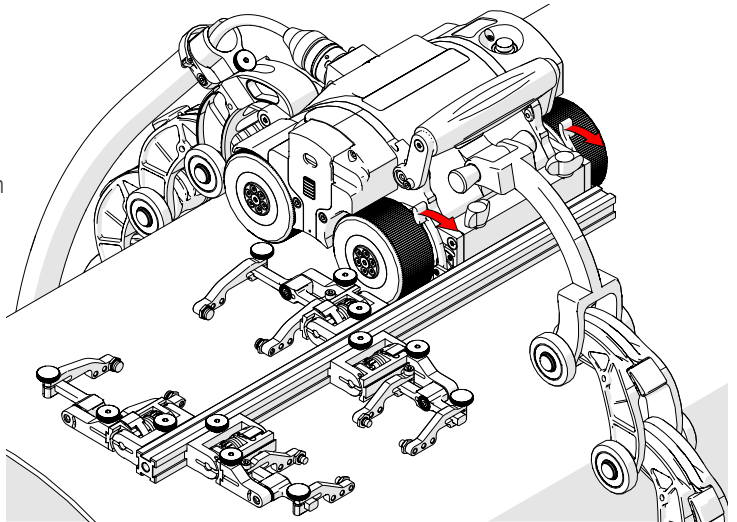
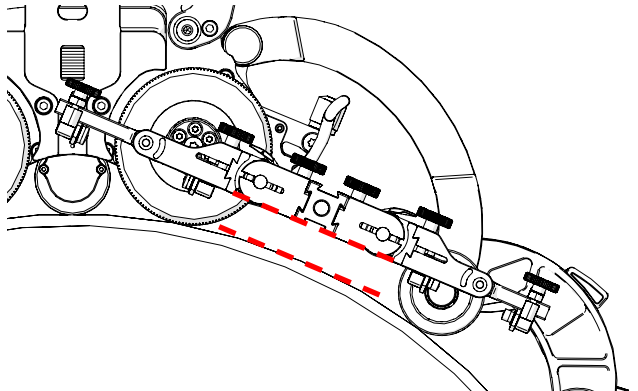

Fig. 199 - Release swivel mount levers
Fig. 200 - Correct swivel mount position
14. Release the swivel mount levers (Fig. 199) to pivot the swivel mount to a position parallel to the scan surface (Fig. 200) (see "Swivel Mount" on page 34 for additional details).